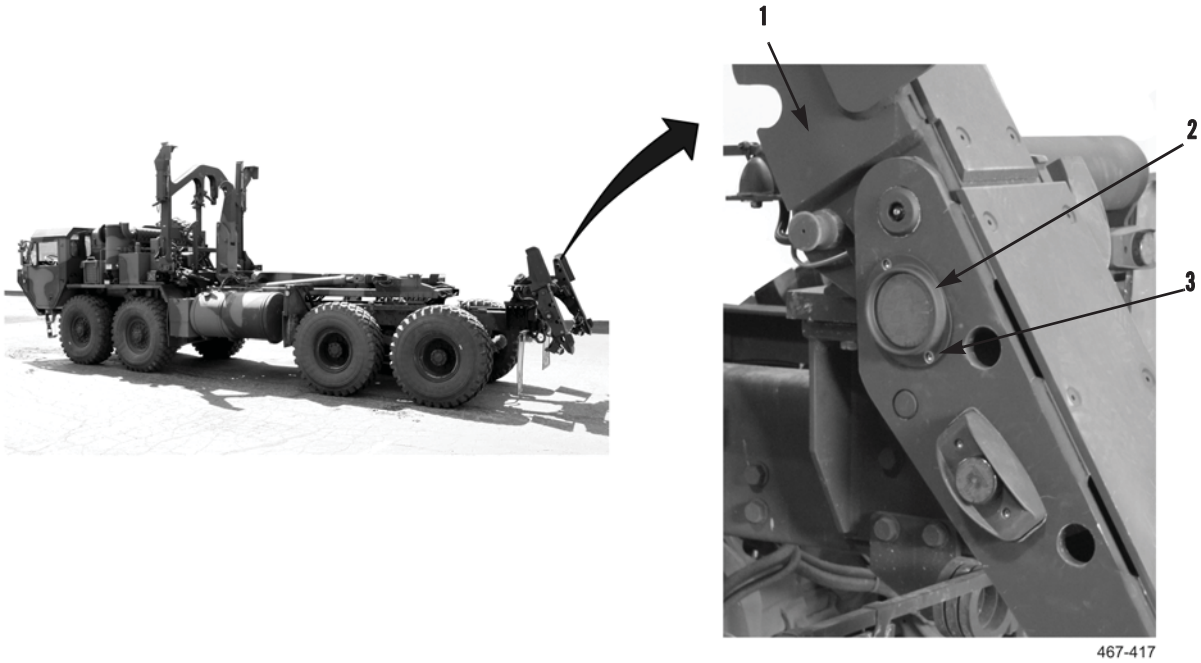

Figure 7. Reflector Removal.
12. Remove two screws (Figure 7, Item 3) and reflector (Figure 7, Item 2) from slider assembly (Figure 7, Item 1).